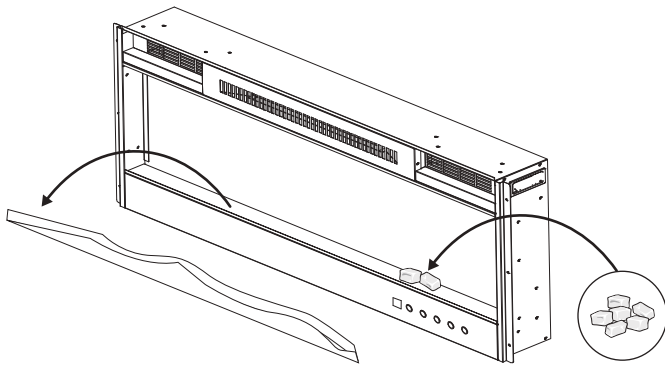

Figure 6
- H. Determine the desired media for inside the fireplace (log or decorative crystals). Install the log media or decorative crystals on the tray inside the fireplace. If using the decorative crystals, cover and store the log media in a safe place. [Figure 6]